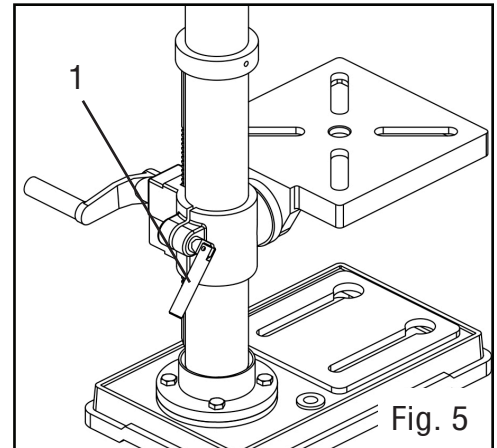

Fig. 5
5. Position the table directly over the base, and tighten the table locking handle (Fig. 5 - 1) to secure table assembly.